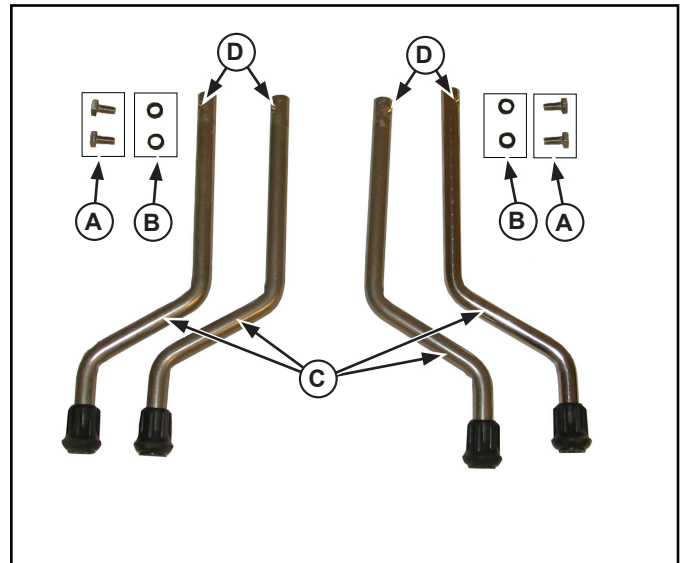

Figure 5. Legs and Hardware for the Lettuce King IV.
1. Use the capscrews (A) and rubber washers (B) to install legs (C). See Figure 5.
2. Use the capscrews (A) and rubber washers (B) to install legs (C). See Figure 5.
5. Tighten capscrews (A) slowly and rotate the legs slightly so that the end of the capscrew (H) enters the notch in the leg (C). See Figure 5.